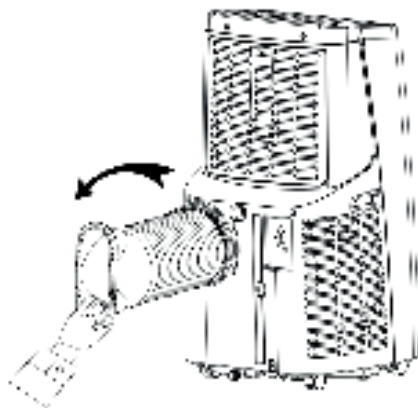

Fig. 1
1.1 Install the heat pipe assembly (as shown in Fig.1): screw the heat pipe assembly (exhaust fitting end) into the exhaust port on the rear panel.